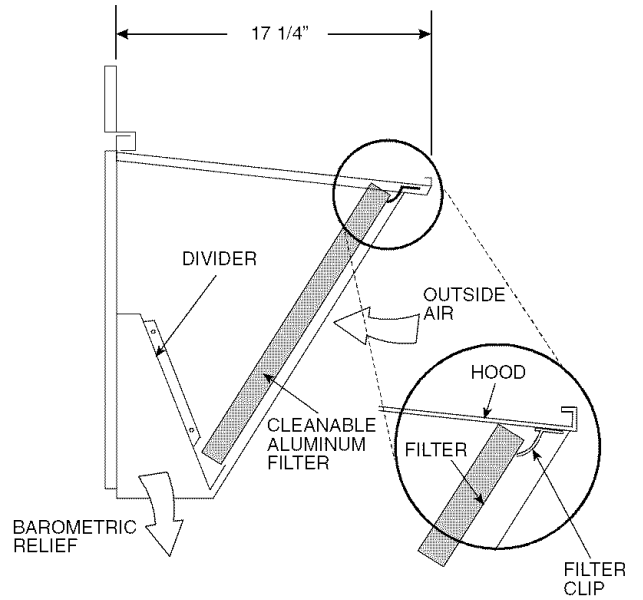

Fig. 27 — Filter Installation
7. Open the filter clips which are located underneath the hood top. Insert the aluminum filter into the bottom filter rack (hood divider). Push the filter into position past the open filter clips. Close the filter clips to lock the filter into place. See Fig. 27.